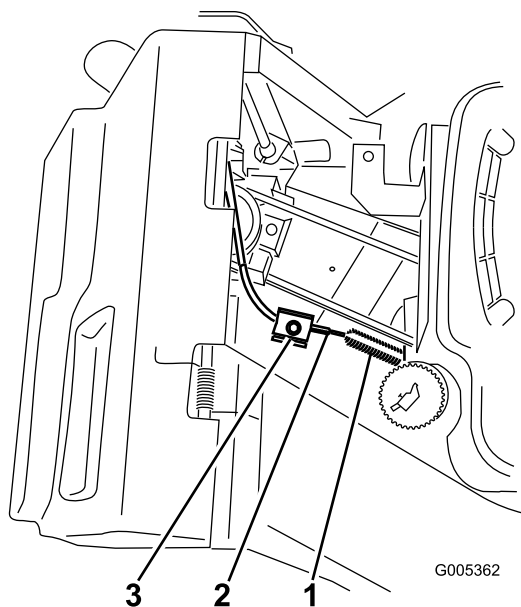

Figure 31
5. Loosen the cable clamp screw until the brake cable conduit slides (Figure 31).